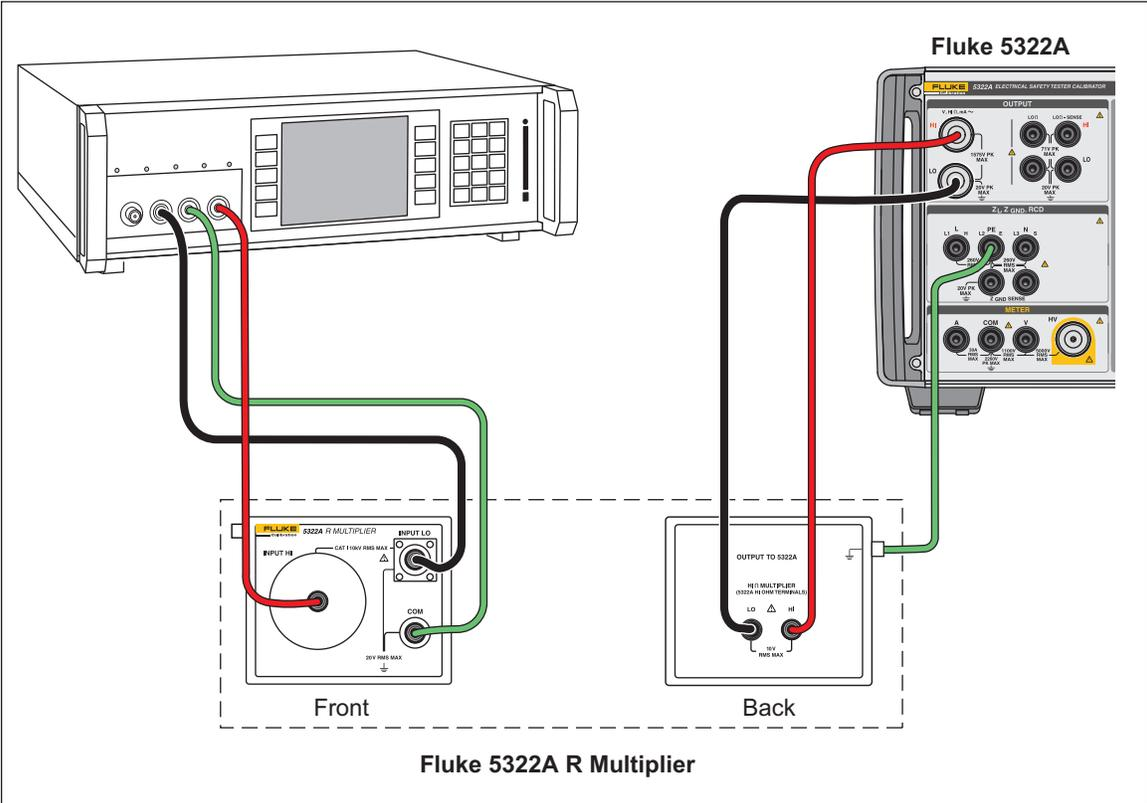
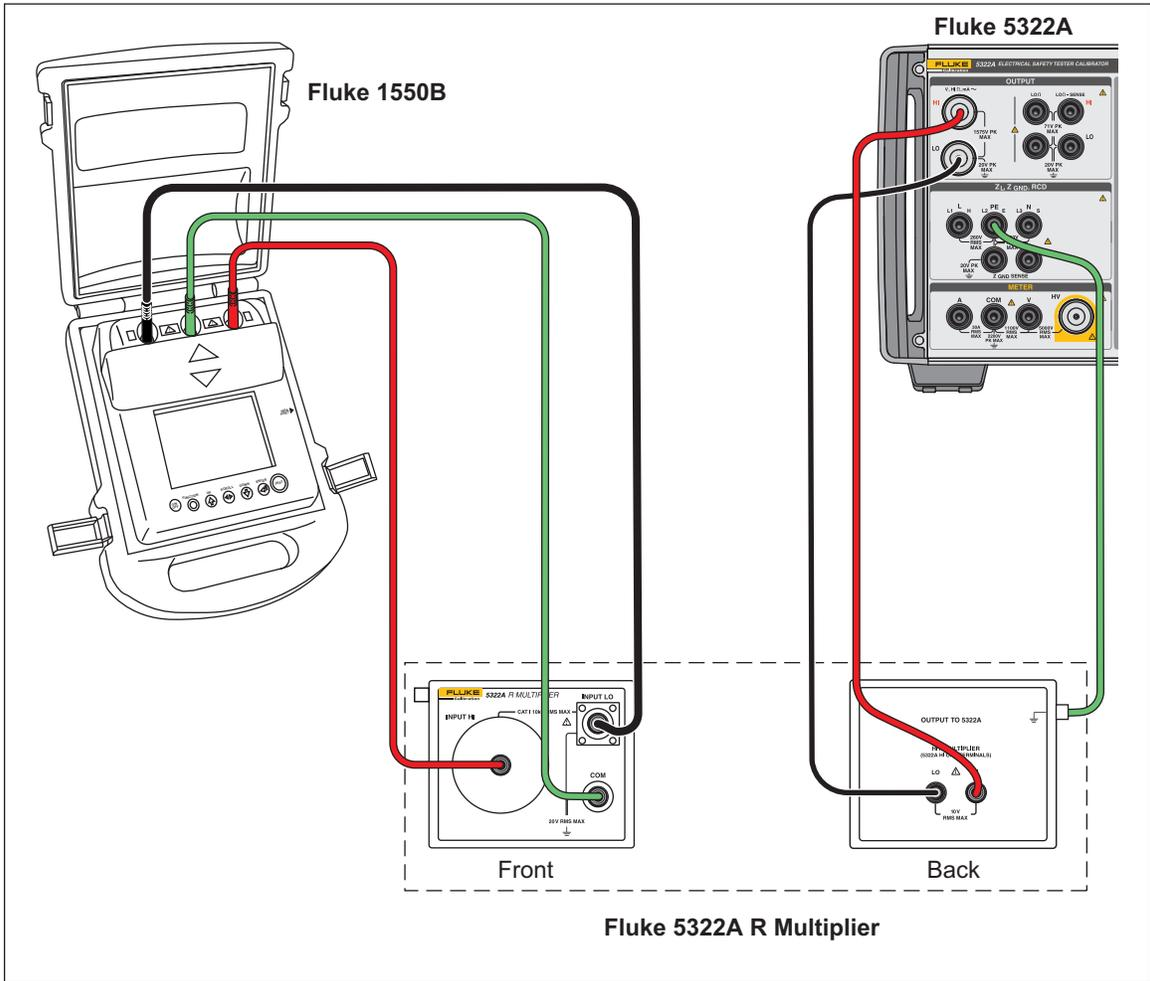

Figure 37. Connections to Bench Tester when using Resistance Multiplier Adapter
Figure 38. Connections to 1550B when using Resistance Multiplier
2. Connect the DUT to the resistance multiplier adapter and the Product as shown in Figure 37 and Figure 38.